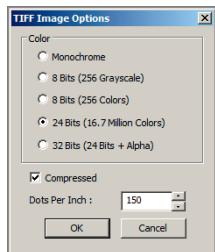

FIGURE 18.19
9. Select the most recent output file name in the Render dialog box, and choose File > Save. In the Render Output File dialog box that appears, open the Files Of Type drop-down menu and select TIF (*.tif). Type **Camera1** in the File Name text box and click Save. Select the 24 Bits radio button, click Compressed in the TIFF Image Options dialog box that appears (see Figure 18.19), and click OK.